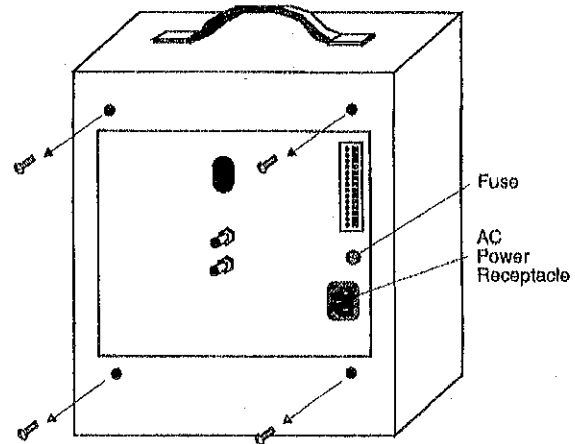

Figure 2-1. Remove Four Screws from Rear of Enclosure.
- b. Remove the four screws at the back of the instrument, Figure 2-1.